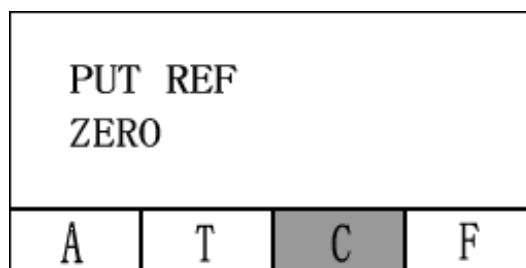

Fig. 4-5
Step 2, Press SET, put the Reference in the light path, press ZERO. (Fig. 4-5)